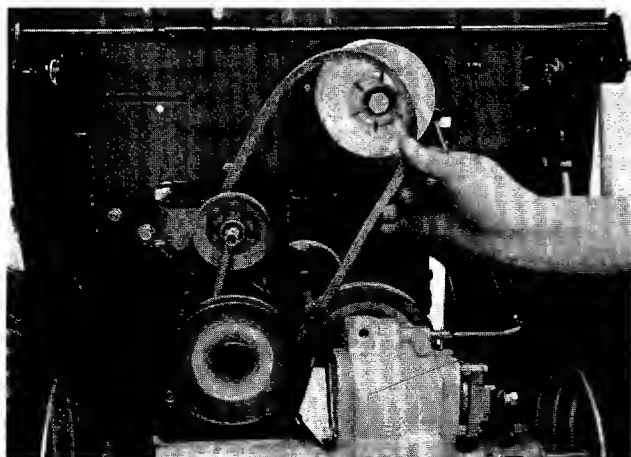

FIGURE 41.
8. Remove and replace the "V"-belt. See figure 41.